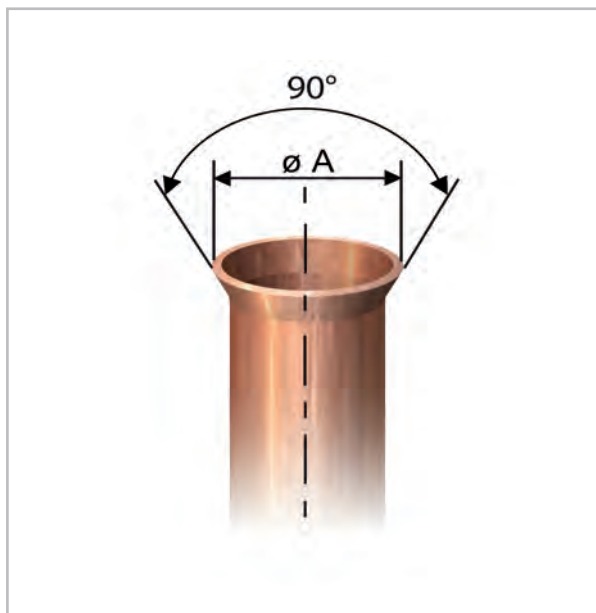

Fig. 13: Correct flange shape
10. ➤ Verify that the shape of the flange is correct (Fig. 13).